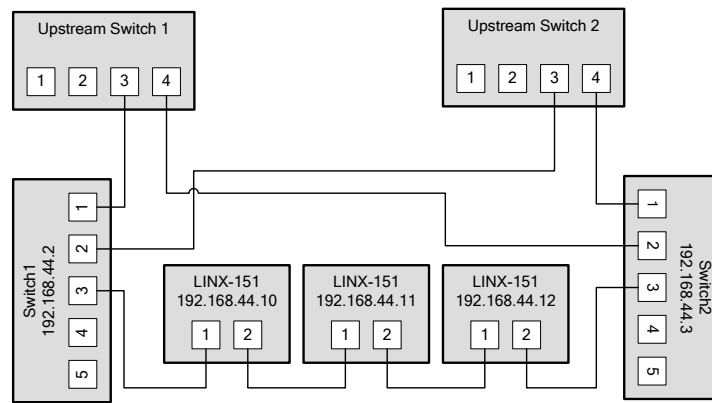

Figure 151: Ring Ethernet topology
**Ring topology:** In this setup, the devices are connected in a chain and each end of the chain is connected to a different upstream switch. This topology requires RSTP. If a single device is powered off, the RSTP will automatically recalculate the spanning tree so that all other devices in the chain are reachable. Only if two devices are power-off at the same time, the devices between them will not have an Ethernet connection. In Figure 151, the L-IP devices with IP addresses from 192.168.44.10 to 192.168.44.12 are connected in this way. The recommended maximum number of daisy-chained devices is 20.